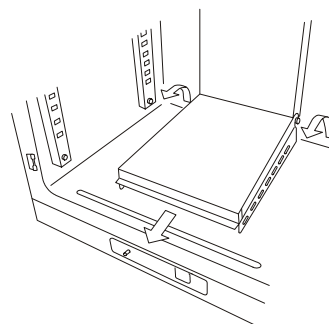

Fig. 3
5. By lifting up the humidifying pan cover, unhook it at the rear and remove the cover as shown in Fig. 3.